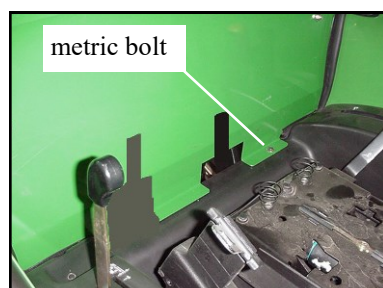

Fig. 2.3.1
- 1.5 Drill an oversized hole (3/8" dia.) thru plastic located behind seat and shown in fig. 1.5. The drilled hole is to be exactly over the center of the left weld nut. Transfer the hole location from the bottom up. (Note: take precautions to avoid damaging the metric threads in the nuts welded below.) (Suggestion: wedge plastic up in the air with a small piece of wood to keep drill bit away from weld nut threads.) This hole will be used to fasten the rear panel assembly in place (ref.: see fig. 2.3.1).
- 2.3 With assistance, and from the side of the tractor, place the pre-assembled unit behind the seat and in between the roll bar uprights (see fig. 2.3). (Make sure the rubber seal that will rest on top of the fenders is facing outwards.) Secure the bottom of the rear panel (thru the newly drilled hole) to the left metric weld nut already in place. (See fig. 2.3.1) Use a 6mm x 1.0 x 20mm long hex. head bolt and 6mm flat washer from the hardware kit.